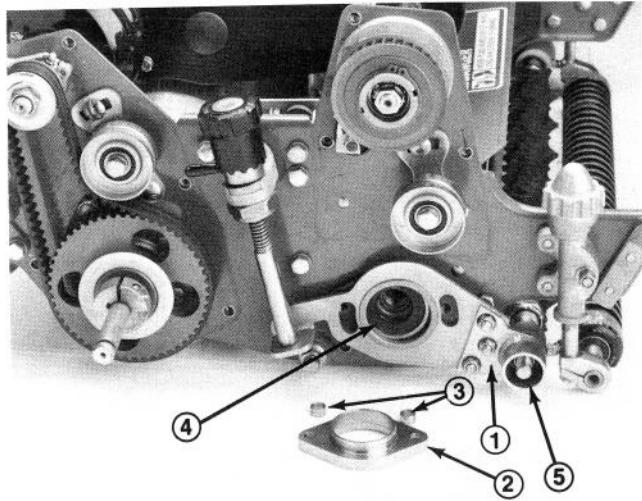

Figure 7
A. Slide the groomer plate assembly over the end of the groomer shaft (Fig. 7).
B. Insert an adapter ring into reel bearing housing. Insert the two 3/8-16 x 2" lg. flat head screws through the groomer arm cover and bearing adapter. Put a spacer over each screw before positioning the adapter into the reel bearing housing. Slide the adapter through the bronze bearing in the groomer plate assembly and into the reel bearing housing. Install lock-nuts on flat head screws and torque to 23 to 27 ft-lb (Fig. 7).
C. Secure right end of groomer shaft to groomer plate assembly with a 1/2-20 locknut (Left hand thread) Torque to 29 to 35 ft-lb (Fig. 7)
16. Mount groomer adjustment knob assembly to right side plate with a 3/8-16 x 5/8" lg. capscrew and belleville washer. Reinstall left bedbar adjuster frame to side plate with capscrews and washers previously removed (Fig. 7).